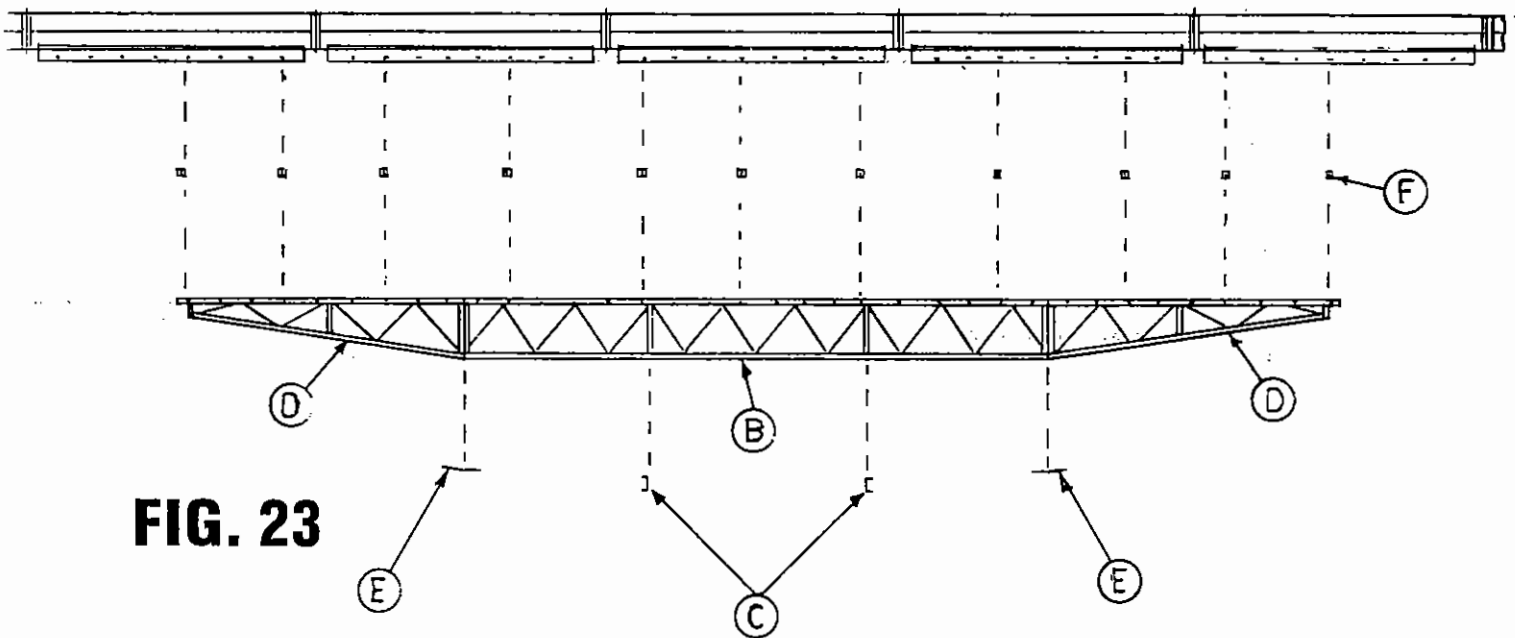

FIG. 23
3. See Figure 23 for proper size and location of trusses required for assembly. 20' trusses are identical. Tapered trusses (9' 5-1/2" long) are made with two right and two lefts. Connect both tapered trusses (D) and main truss (B) end vertical angles together with three 3/8" x 1" hex head bolts, lock washers and nuts (12 required). Tighten these bolts now.
4. Position truss sides as shown in Figure 23. Align holes of the truss sides to mounting plate on trunk section and bolt together using 3/8" x 1" hex head bolts, flat washers (2 per bolt), lock washers and nuts (42 required).
- Connect both main trusses (B) together at bottom of both vertical angles (except angles under connecting plates) using two cross braces (4" x 13" on Model 50 or 4" x 17" on Model 85) (C) and four 3/8" x 3/4" long hex head bolts, lockwashers and nuts per cross brace.
- Attach lower connecting plates (E) (On Model 50 - 13" x 13-1/2" or On Mode 85 - 13" x 17-1/2") to bottom of tapered truss and main truss sides where end vertical angles have been joined together. See Figure 23. Use eight 1/2" x 1-1/4" hex head bolts, lockwashers and nuts to secure each lower connecting plate in place.